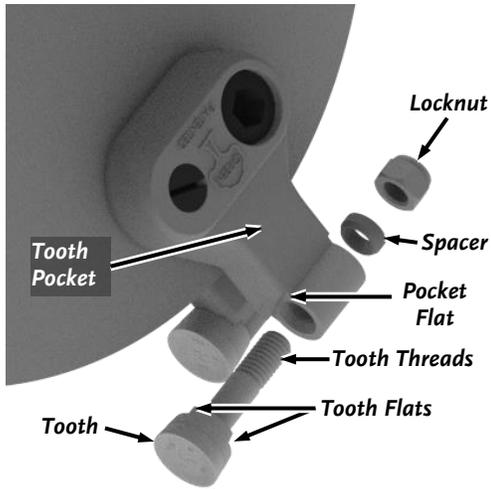

Figure 25
2. Using a 5/8" socket, remove the Locknut from the Tooth Threads (**Figure 25**). Discard used Locknuts.